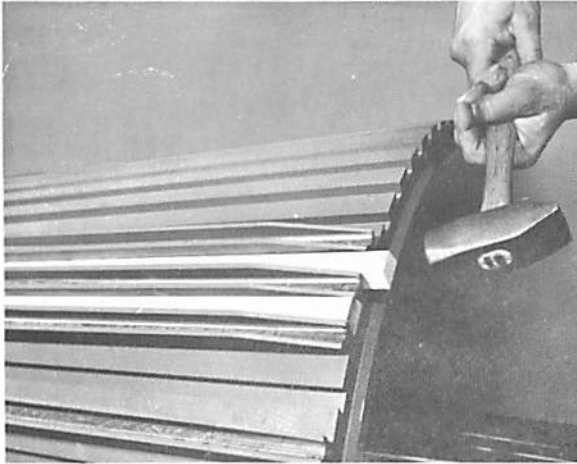

Fig. 5 Driving Large End Plug Woods Into Position
6. Install the large-end plug woods as shown in Figure 5, dressing the sides slightly if necessary. These woods should also slide freely to within $\frac{3}{4}$ inch of their final position. Drive the large-end plug woods to the small-end plug woods and flush